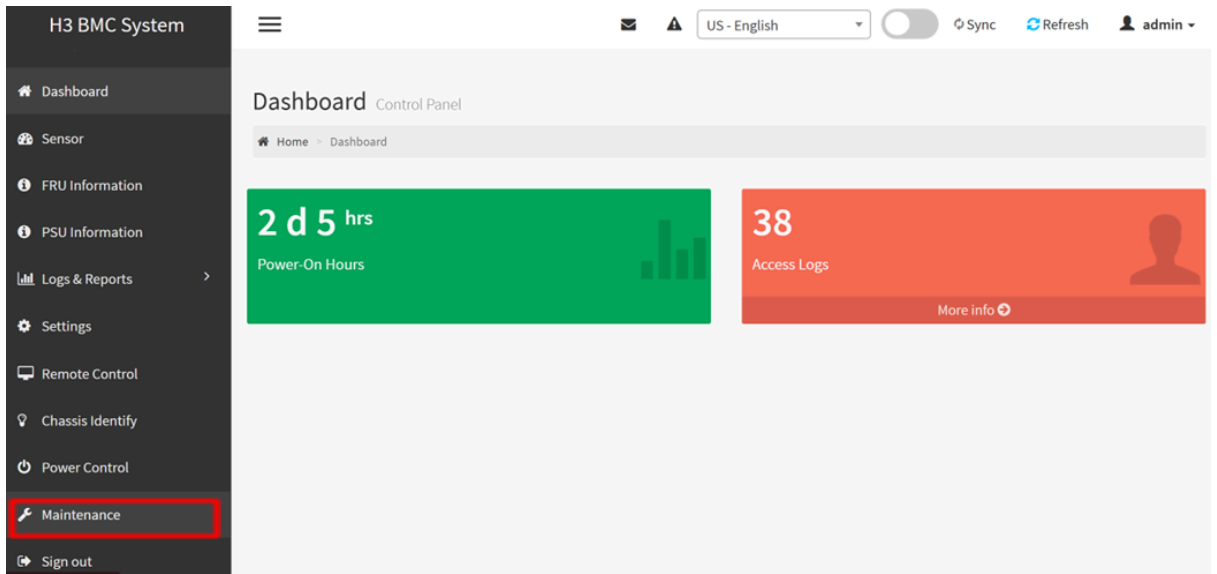

Figure 104. Navigating to the **Maintenance** section.
- C. From the navigation bar on the left, select Maintenance (refer to Figure 104).